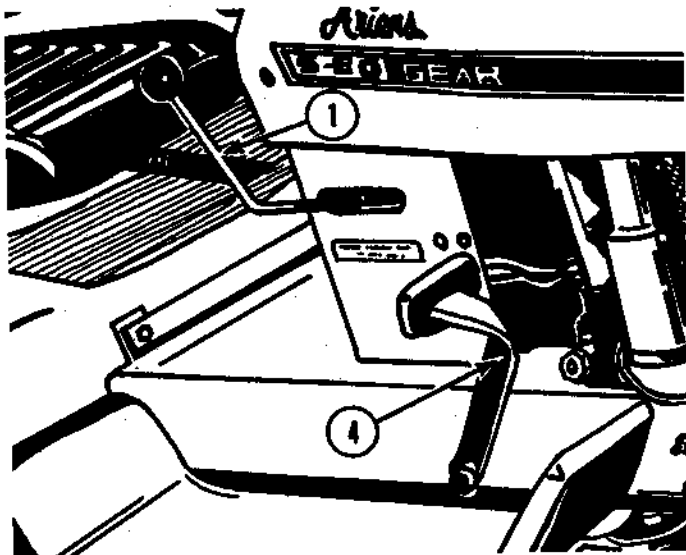

Figure 1
- 1 IMPLEMENT POWER CLUTCH** — Figure 1
- 4 HYDROSTATIC NEUTRALIZER AND BRAKE PEDAL** (Hydrostatic Models) — Figure 1
4. Place implement power clutch lever **1** Figure 1, in the rear (disengaged) position.